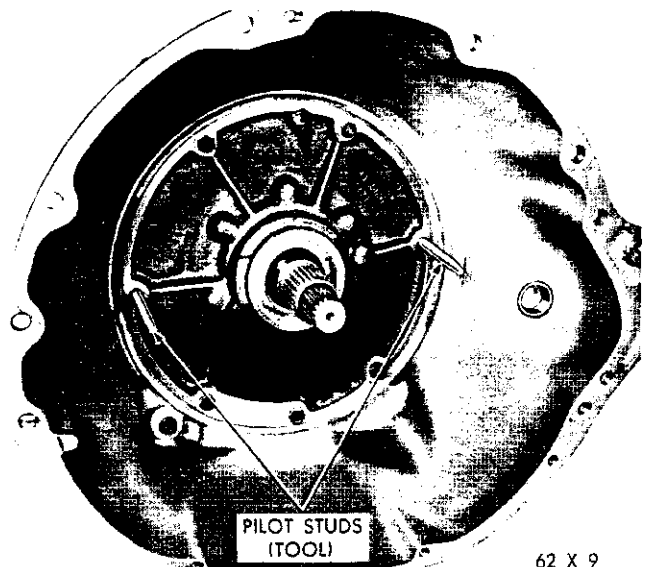

Fig. 80—Installing Front Pump and Reaction Shaft Support Assembly
(1) Screw two pilot studs, Tool C-3288 in the front oil pump opening in the case (Fig. 80). Install a new gasket over the pilot studs.
(2) Place a new rubber seal ring in the groove on the outer flange of the oil pump housing. Make sure the seal ring is not twisted.
(3) Insert aligning Tool C-3881 through the pump body and engage with the inner rotor.
(4) Install the assembly in the case, tap lightly with a soft mallet if necessary. Place the deflector over the vent opening and install four pump body bolts, remove the pilot studs and install the remaining bolts. Snug bolts down evenly, then tighten to 150 inch-pounds torque.
(5) Rotate the pump rotors with Tool C-3881 until the two small holes in the handle of the tool are